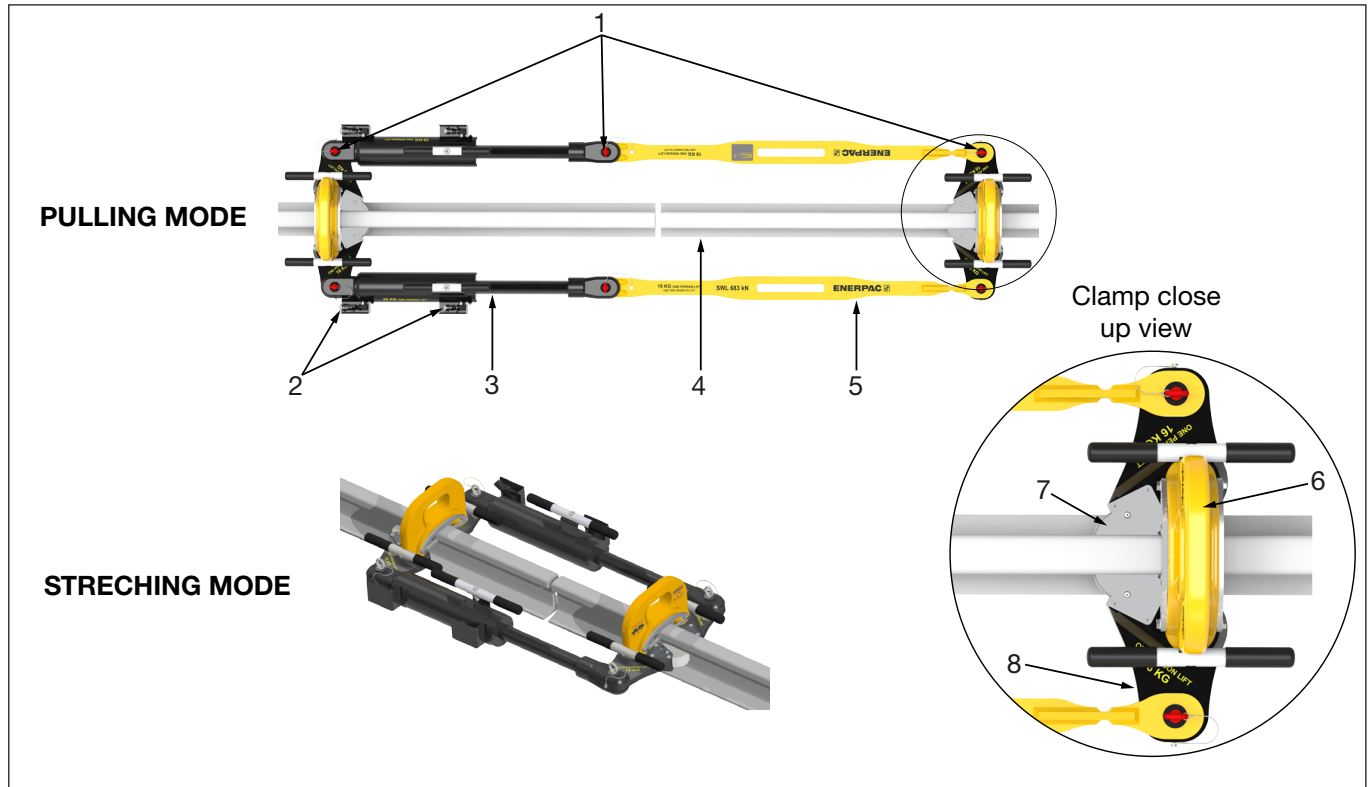

Figure 2: Major Features and Components of RP70A2L
The rail grips (Figure 2, item 7) are mounted on swing arms (Figure 2, item 8), which are attached to the clamps in a flexible way.
The positioning plates are part of the clamps (Figure 2, item 6) and they are used to put the clamp correctly on the rail.